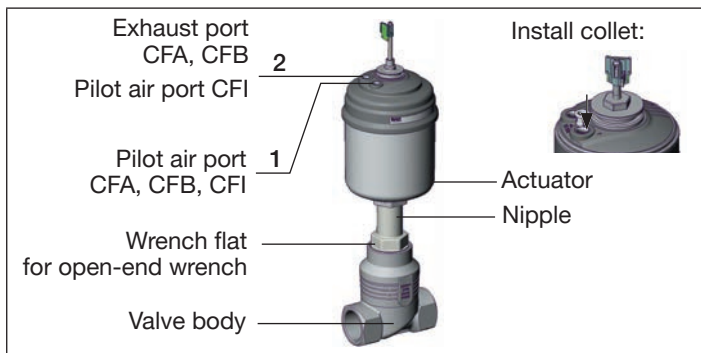

Fig. 4: Installation
- For control function A pressurise the pilot air port 1 (see “Fig. 4”) with compressed air (5 bar): Valve opens.
→ For control function A pressurise the pilot air port 1 (see “Fig. 4”) with compressed air (5 bar): Valve opens.